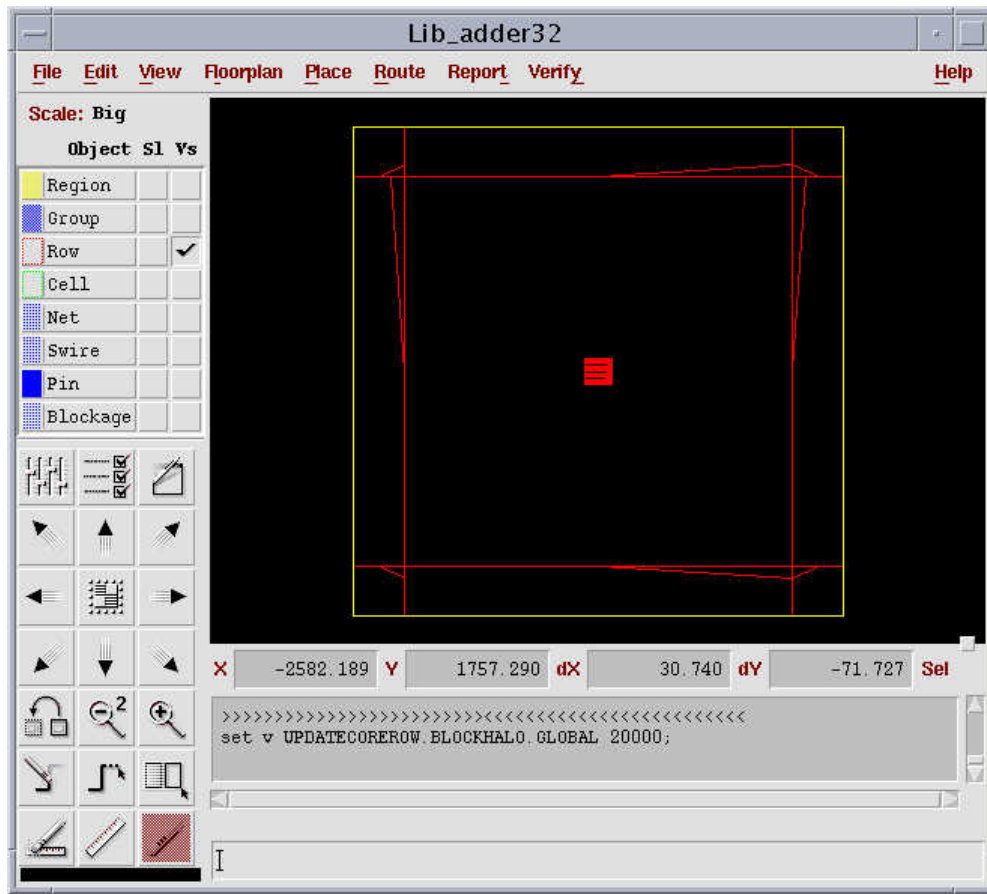

Figure 7-14 Initial floorplan.
- 5. Click on **Ok** on the **Initialization Floorplan** form. A floorplan appears in the artwork Window as shown in figure 7-14.